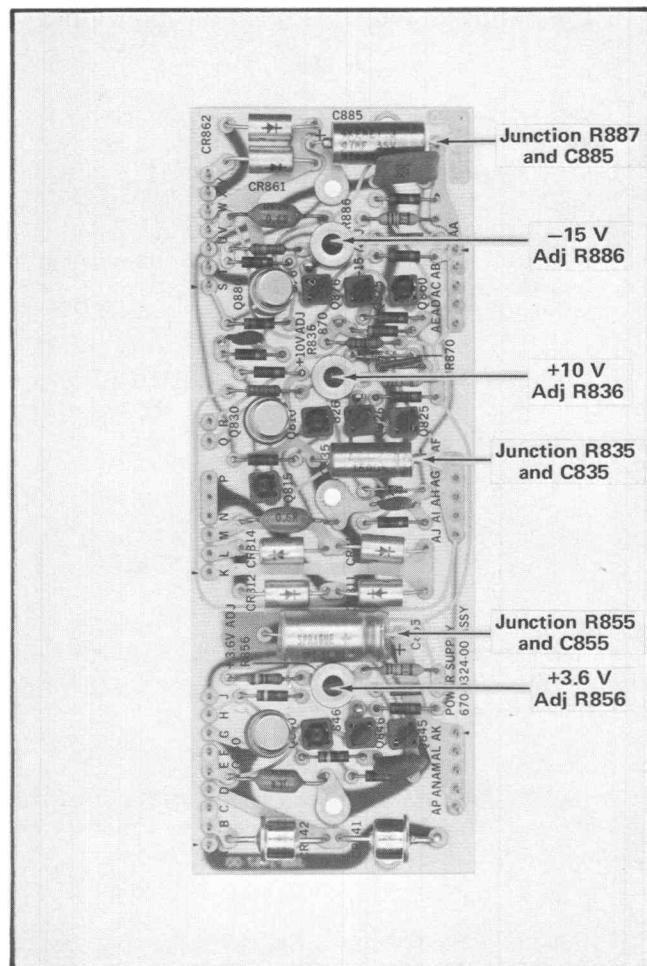

Fig. 5-2. Power Supply board test point and adjustment locations.
- Connect the common lead of the voltmeter to a convenient chassis ground point on the Type R140. Then, connect the positive lead to the junction of R887 and C885 (-15 volts) on the Power Supply board (see Fig. 5-2).
- n. From the Type 1A5 B Input connector, connect a 1X probe to the junction of R887 and C855 (-15 V) on the Type R140 Power Supply board; see Fig. 5-2.